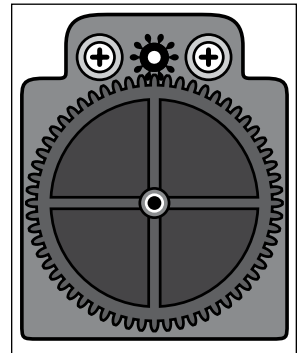

Figure 9
- 4) Insert the short end of the brass rod in the rotor top on the opposite side of the motor. Turn the rod and notice how the gears mesh together (Figure 7 and 8). The motor will move a bit. To find the best position, adjust the motor until the pinion gear moves smoothly by the drive gear when you spin the brass rod (Figure 9).